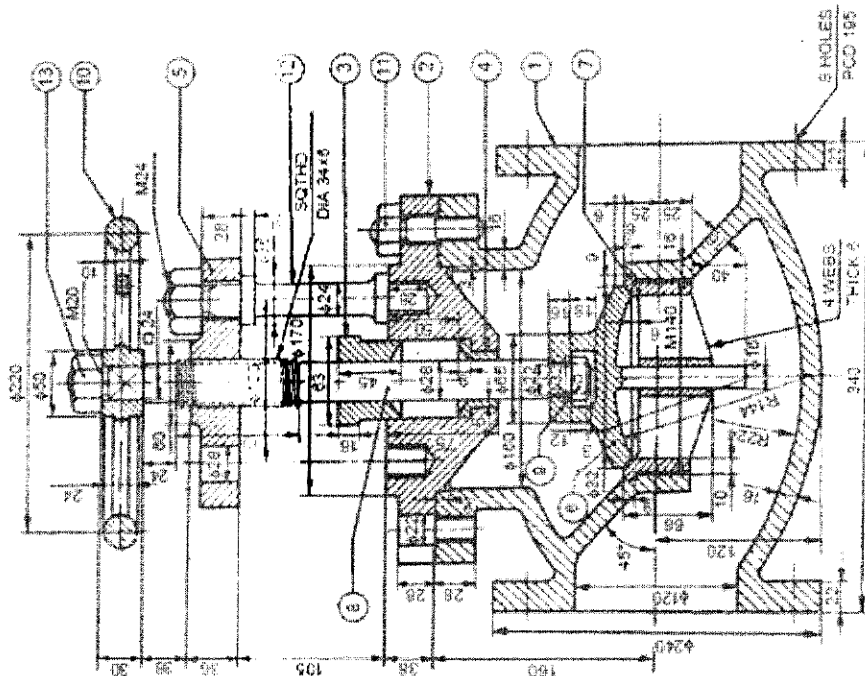

Figure 2: Details of a steam stop valve
4. Draw the right side sectional front view for the steam stop valve assembly with the following details (Figure 2 attached). Indicate its bill of material details with different part names and materials. **40**